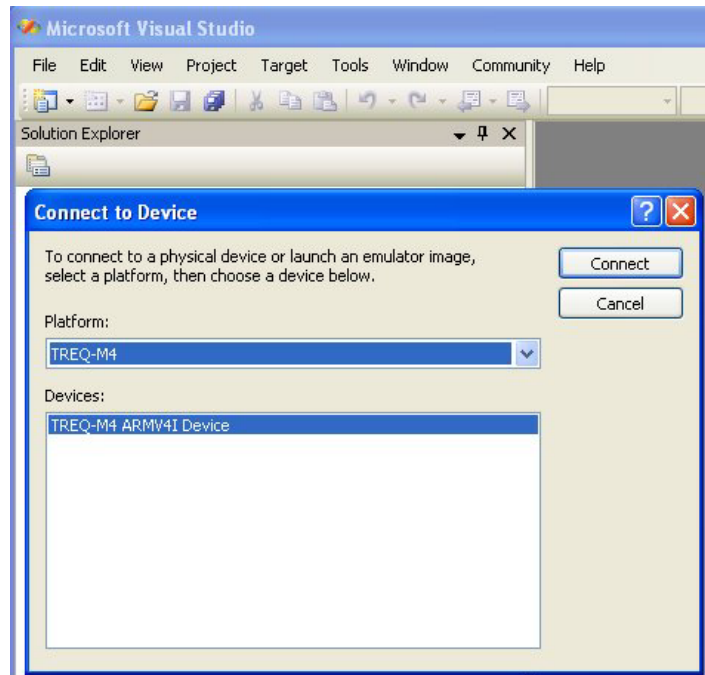

Figure 27
7. Verify the device connection. From the Tools menu, select **Connect to Device**. Refer to Figure 27.